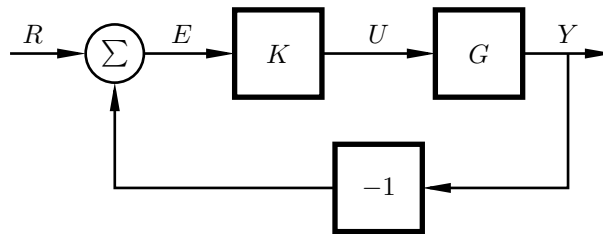

Figure 1: Closed loop system in Problem 1.c.
- The process is regulated by a proportional controller with gain K in a closed loop system (Figure 1). For what values of K is the closed loop system asymptotically stable? Consider both positive and negative values of K . (2 p)